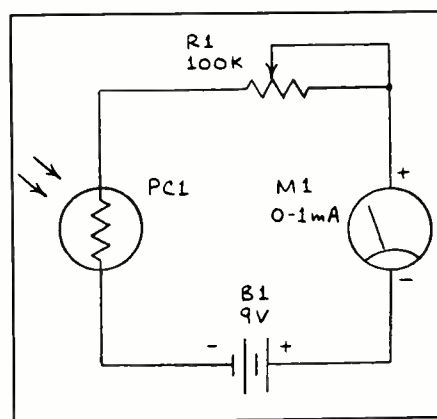
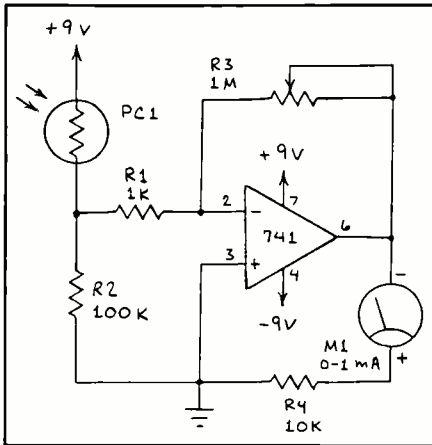

Fig. 7. A simple photoresistor light meter.
Fig. 8. A photoresistor light meter with a gain stage.
• *Simple Light Meter*. Shown in Fig. 7 is the schematic diagram of an ultra-simple but surprisingly sensitive photoresistor light meter. Potentiometer *R1* controls the meter's sensitivity. If you wish greater sensitivity from this circuit, you can use a 0-to-50-microampere meter movement for *M1*.
• **Advanced Light Meter.** Considerably more sensitivity to light can be obtained with the circuit shown in Fig. 8. Indeed, at its most-sensitive setting, the circuit is difficult to use because the light level required to read the meter may itself be bright enough to forcefully peg the meter's pointer!
As with the Fig. 7 circuit, many different photoresistors can be used in the Fig. 8 circuit. A high light-to-dark resistance ratio will provide best results.